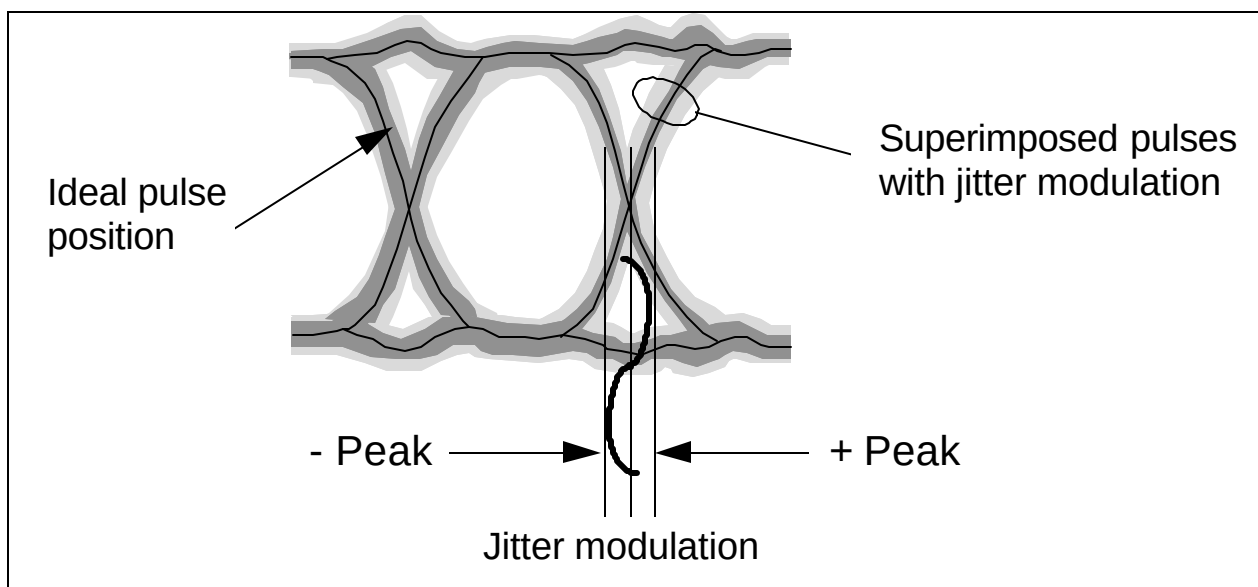
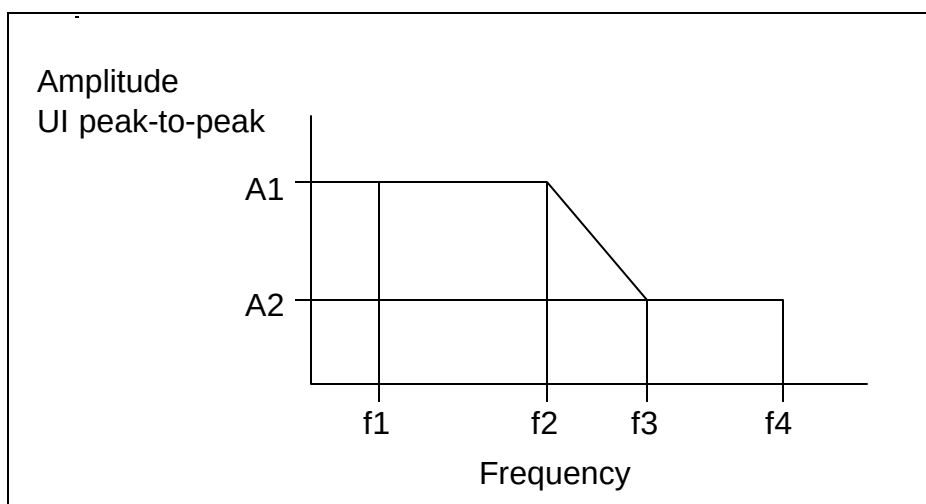

Figure 4. Viewed on an oscilloscope synchronized to the received data, phase error, or jitter, q_e shows up as a widening of the recovered clock's waveform.
Figure 5. The range of jitter frequencies and amplitudes that a BERT should generate.
Then with Equation (11) we can find BER as a function of SNR. This is plotted in Figure 4. In Figure 4a the BER axis is a log scale. In Figure 4b the BER axis has a specially distorted scale so the plot appears as a straight line. This will help in determining whether noise is Gaussian, and it will help in extrapolating data. Suppose a system has a SNR of 18 dB. According to Figure 4, the corresponding bit error ratio is 10^{-16} . At a baud of 1 Gbit/s, this would yield an error only once every 4 months on average. To get an estimate of this error rate in a reasonable time, testing with stress is necessary.
Figure 4. Bit-Error-Rate (BER) is plotted here as a function of the signal-to-noise ratio (SNR), where SNR is S/N_{rms} in decibels (electrical), S is the distance from the signal (1 or 0) to the decision threshold and N_{rms} is the rms value of the Gaussian noise introduced by the first receiver state (a). In (b), the log scale was distorted, so the plot is a straight line.
SNR is also 18 dB, and from Figure 4 we find $\text{BER} = 10^{-16}$ (see point at Attenuation = 0 in Figure 5). As the Attenuation is increased to 6 dB, then SNR is reduced to $18 - 6 = 12$ dB. According to Figure 4, this corresponds to $\text{BER} = 3.5 \times 10^{-5}$ (see point at Attenuation = 6 dB in Figure 5). The complete plot of
BER vs. Attenuation appears as a straight line because the BER scale is again distorted. The line here is for the case $\text{SNR}_0 = 18$ dB. For other values of SNR_0 , the plot would fall parallel to the line in Figure 5. Remember that we are talking about electrical attenuation here; 1 dB of optical attenuation is worth 2 dB of electrical attenuation.
Figure 5. BER is plotted as function of electrical-signal attenuation for the case of a system with $\text{BER}=10^{-6}$ for no attenuation. That is, the SNR_0 for no attenuation is 18 dB. Then, SNR with attenuation is 18 dB minus attenuation, and BER follows from Figure 4.
It isn't practical to plot a curve such as that in Figure 5; it would take too long to plot the points for low BER. But if the noise is known to be Gaussian and the BER is found to be 3.5×10^{-5} for 6 dB of attenuation, then the BER can be inferred to be 10^{-16} for no attenuation. It is actually better to plot two points for two attenuations and extrapolate to zero attenuation. An example will show how this extrapolation is done.